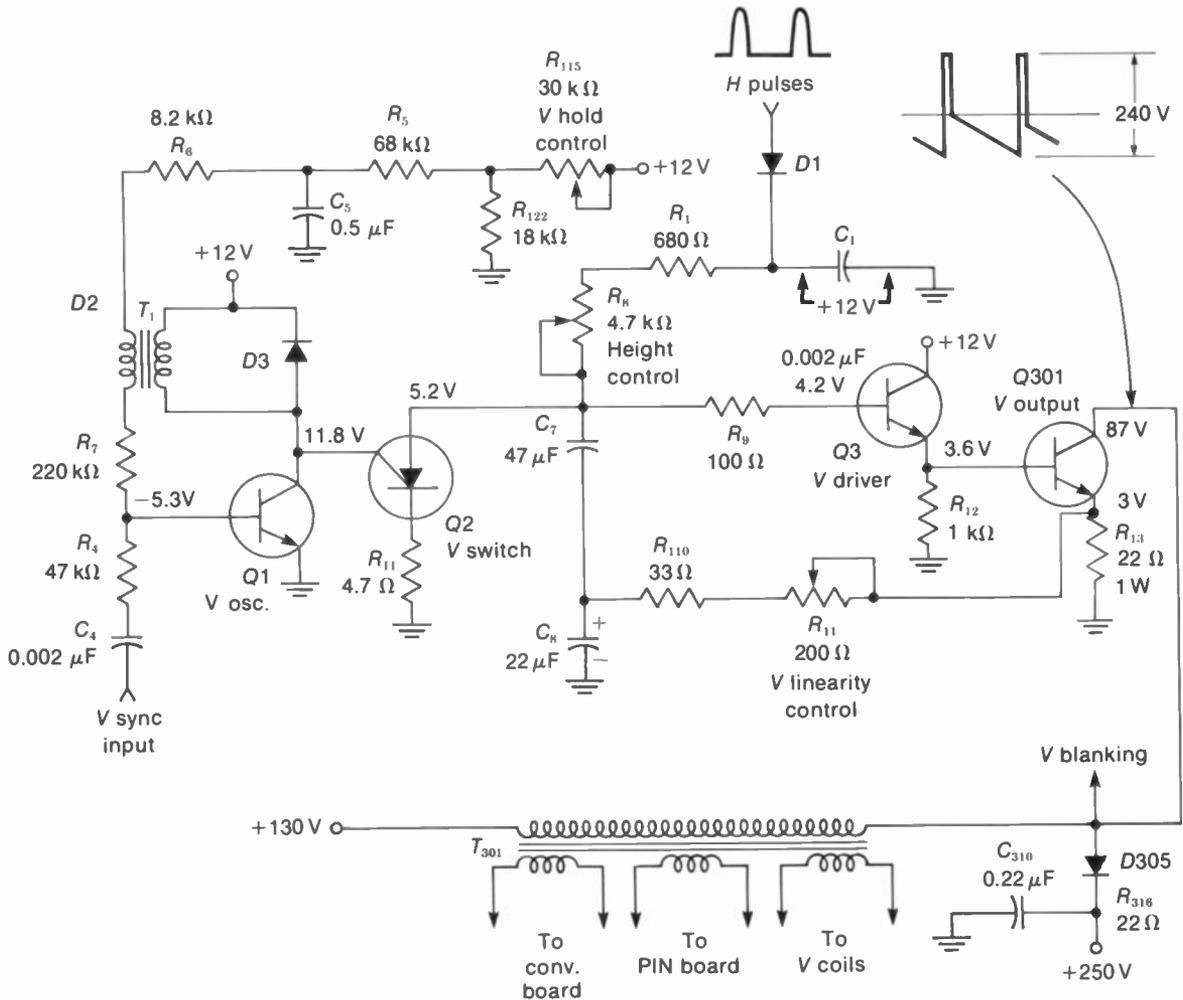

FIGURE 21-12 TRANSISTORIZED BLOCKING OSCILLATOR WITH EMITTER-FOLLOWER AND CE VERTICAL AMPLIFIER. (FROM MAGNAVOX CHASSIS T979)
See Fig. 21-12. Q1 is a blocking oscillator, synchronized at 60 Hz by the vertical sync input. Q2 is a silicon controlled rectifier (SCR) that serves as a switch to discharge the sawtooth capacitance, consisting of  $C_7$  and  $C_8$  in series. The collector output voltage of Q1 drives the gate electrode of Q2. The sawtooth voltage output is directly coupled to the base of Q3. This stage is an emitter-follower with high input impedance that isolates the oscillator and switch from the low impedance of the vertical output stage Q301. This is a CE (common-emitter) amplifier.
7. With transistors for vertical deflection, a typical circuit includes a blocking oscillator and emitter-follower driving the power output stage (Fig. 21-12).
7. In Fig. 21-12, the forward bias between base and emitter of the vertical output stage Q301 equals: (a) 3.0 V; (b) 3.6 V; (c) 0.6 V; (d) 130 V.
10. In the transistorized vertical deflection circuit in Fig. 21-12, if  $R_{13}$  in the emitter of Q301 opens, the result will be: (a) poor linearity; (b) vertical rolling; (c) pincushion distortion; (d) just a horizontal line across the center of the screen.
14. In the transistor circuit in Fig. 21-12, give the function for each of the following components:  $C_4$ ,  $T_1$ ,  $D3$ ,  $Q2$ ,  $C_1$ ,  $R_{12}$ ,  $R_{13}$ ,  $R_{115}$ ,  $R_8$ , and  $R_{11}$ .
2. Referring to the transistor circuit in Fig. 21-12, how much is the emitter current for: (a)  $Q3$ ; (b)  $Q301$ .